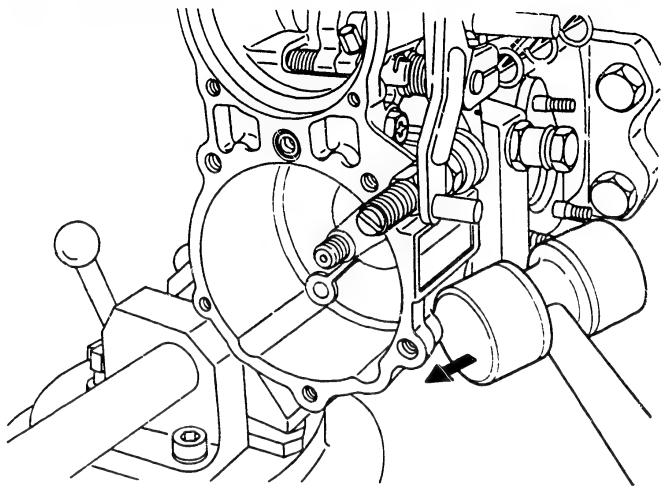

Fig. 37 Governor housing removal
9. By tapping the governor housing (1) lightly with a mallet, separate it from the pump housing. (Fig. 37)